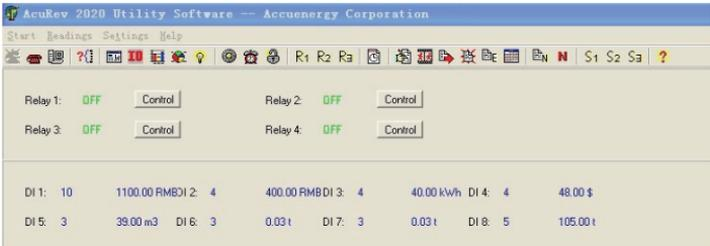
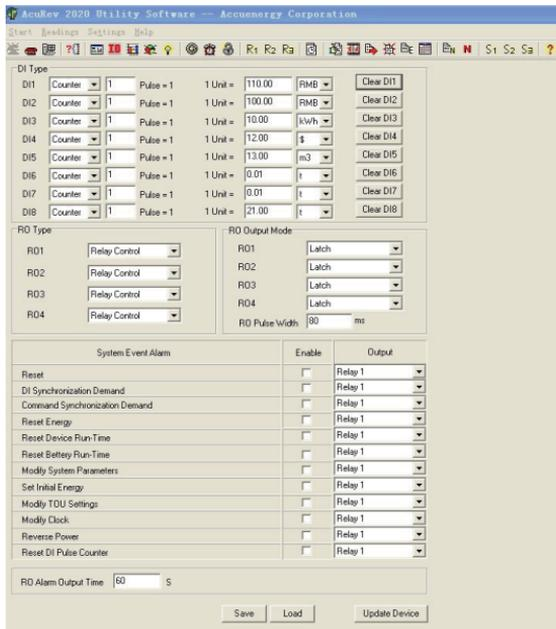

Figure 4-5 DI/RO
Figure 4-6 DI/RO and System Event alarming setup
As Figure 4-5 shows, AcuRev 2000 has 4 Relay Outputs (RO), 8 Digital Inputs (DO). Please refer to Figure 4-6 for DI/RO related settings.
If the Relay Output type is set as Relay Control, click "Control" in Figure 4-5 to send command "close" or "open" to the relay. When the relay is set as alarming output, Relay Control function will be disabled.